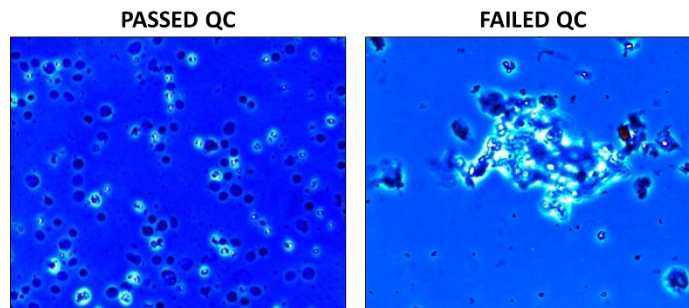

Figure 2. Nuclear morphological evaluation: the nuclei on the left are of high quality, while excessive clumping is observed for the nuclei on the right.
7. **QC checkpoint:** inspect the nuclei by light microscopy; high-quality nuclei should be intact with round or oval shape and no clumping should be observed, as shown in Figure 2 (sample on the left).